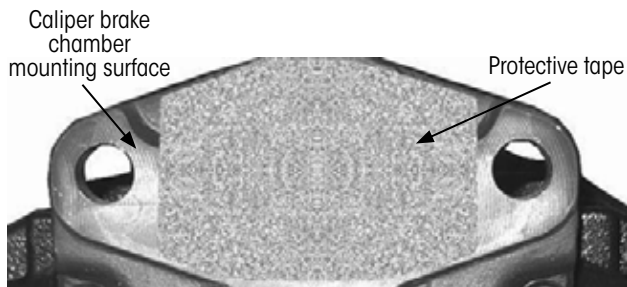

Figure 43: New caliper with protective tape
NOTE: The protective tape covering the caliper brake chamber mounting surface must be fully removed (Figure 43).
1. **Remove** all shipping material from the new brake (Figure 43).